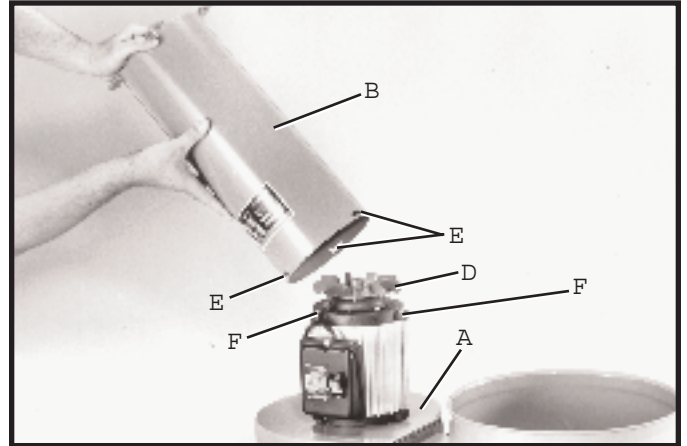
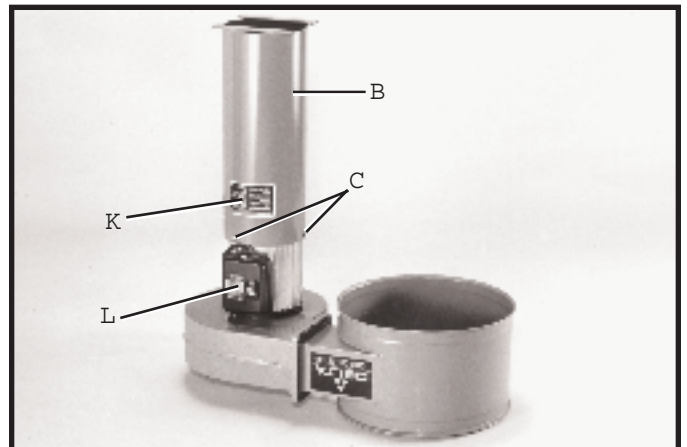
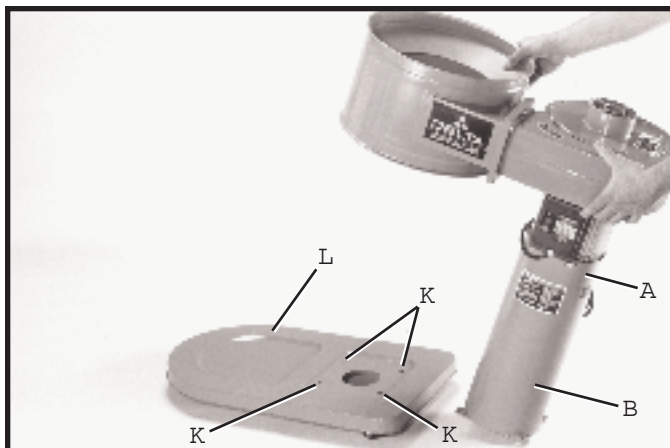
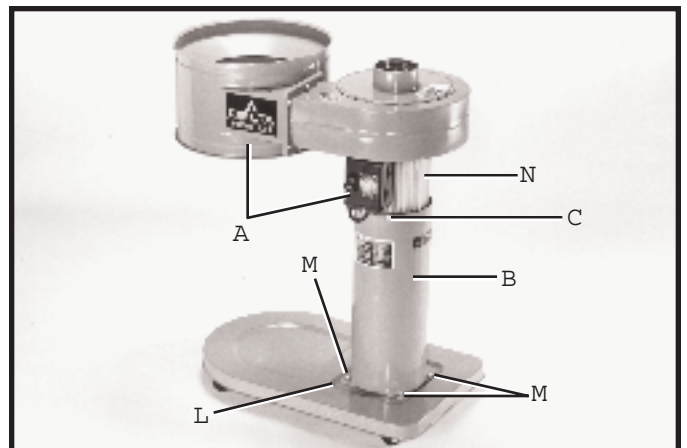

Fig. 6
Fig. 7
Fig. 8
Fig. 9
- 3 Carefully place support tube (B) Fig. 6, over the motor impellers (D). Align three holes (E) Fig. 6, in support tube (B) with three holes in the motor casting, two of which are shown at (F) and fasten support tube (B) to motor and blower assembly (A) with three 1/2 inch-long screws (C) Fig. 7. Warning label (K) Fig. 7, should be positioned over the on/off switch (L) when support tube (B) is properly positioned as shown. NOTE: Do not tighten three screws, two of which are shown at (C) Fig. 8, at this time.
- 4 Carefully turn motor and blower assembly (A) Fig. 8, with support tube (B) attached, right side up. Align the four holes in the feet of support tube (B) Fig. 8, with four threaded holes (K) in base and fasten motor and blower assembly (A) Fig. 9, to base (L) with four 5/16-18 x 1/2 hex head screws, three of which are shown at (M).
- 5 **IMPORTANT:** Make certain motor and blower assembly (A) Fig. 9, is parallel with base (L). If adjustment is necessary, rotate motor (N) on support tube (B) and tighten three mounting screws, one of which is shown at (C).